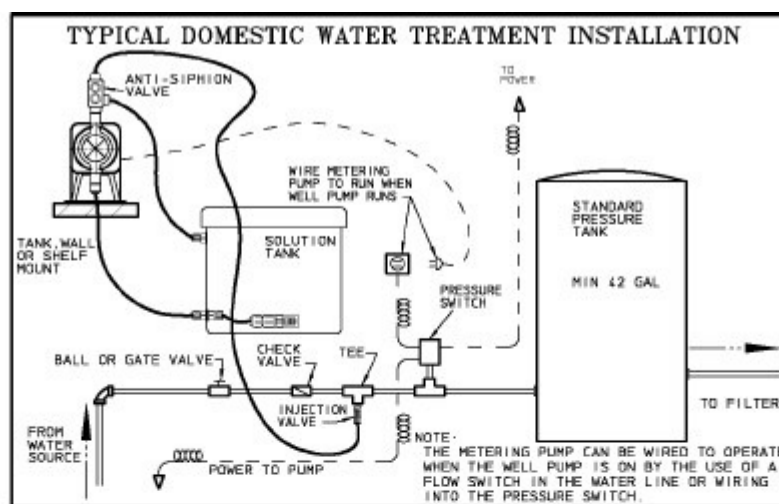

FIGURE G1
19. The pump is designed to operate using a backpressure/injection valve. If the discharge point is below the liquid level of the source or if the discharge pressure is less than the suction pressure, siphoning may occur. To correct this condition, install an anti-siphon valve or other anti-siphon device. Check local regulations which may apply. (Ref. Figure G1).
5. USE AN ANTI-SIPHON VALVE IN THE DISCHARGE LINE whenever the fluid pressure in the discharge line is below atmospheric pressure. This can occur if the injection point is on the suction side of a water pump or against a "negative" head such as when feeding down into a well, SEE FIGURE G1.
2. Install the backpressure/injection (Figure I) on the discharge side of the metering pump into a tee which is installed into the water line going to the pressure tank. Typical installations are found in figures G1, G2 and G3.